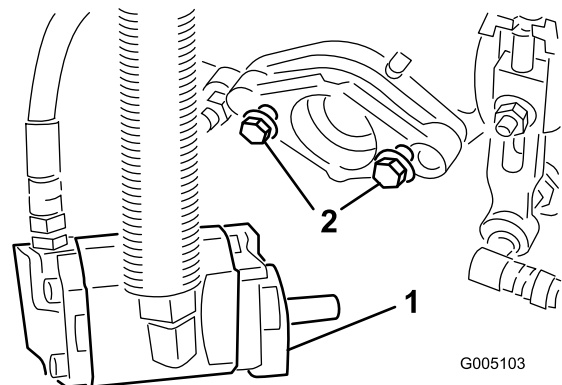

Figure 10
6. Ensure that there is approximately 13 mm (1/2 inch) of threads exposed on each reel drive motor mounting bolt (Figure 10).
8. **Tighten the mounting bolts (Figure 10).**